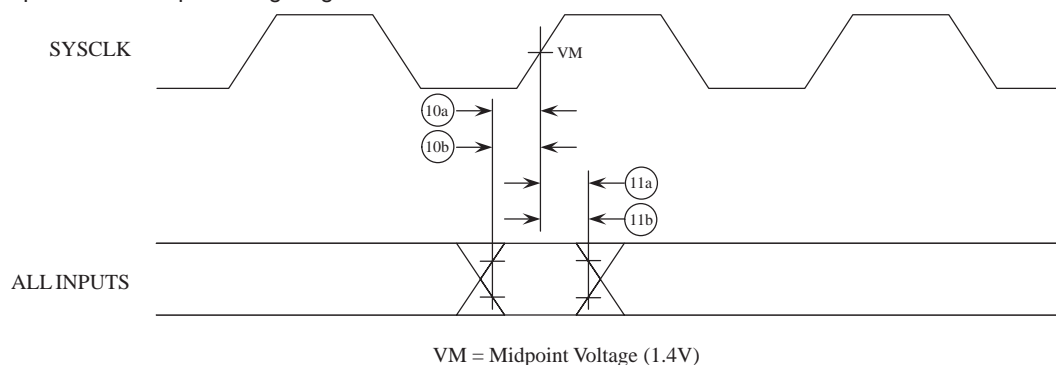
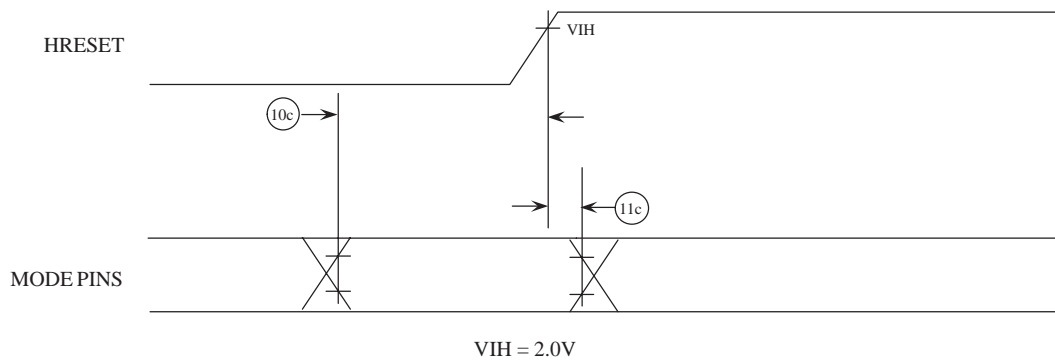

Figure 10. Input Timing Diagram
Figure 11. Mode Select Input Timing Diagram
Table 10 provides the 60x bus input AC timing specifications for the TSPC750A as defined in Figure 10 and Figure 11. Input timing specifications for the L2 bus are provided in Section 4.2.5. , "L2 Bus Input AC Specifications.
4. The setup and hold time is with respect to the rising edge of $\overline{\text{HRESET}}$ (see Figure 11).
Figure 10 provides the input timing diagram for the TSPC750A.
Figure 11 provides the mode select input timing diagram for the TSPC750A.